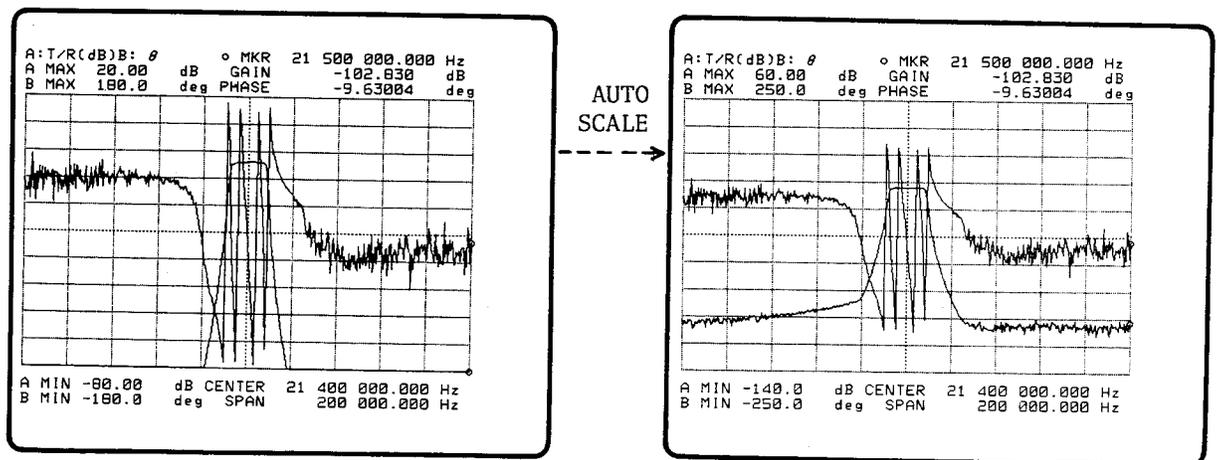

Figure 3-76. Display after AUTO SCALE
1. Press the **AUTO SCALE A** or **AUTO SCALE B** key to modify the scale. DATA will be in the scale as shown in Figure 3-76.
A description of the three data fields in the Marker Area of the display shown in Figure 3-76 is given below: